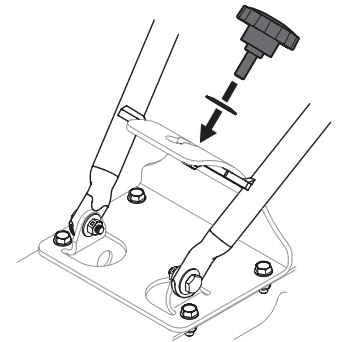

Figure 4
7. Thread the height adjustment knob through the washer (.760 x 1.250 x .041) then into the hole in the handlebar cross-brace. See Figure 4.